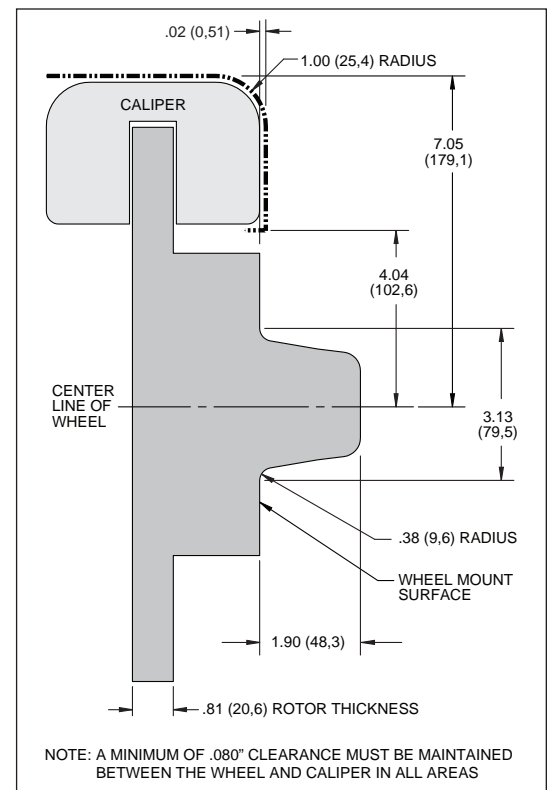

Figure 2. Wheel Clearance Diagram
- Review the wheel clearance diagram (Figure 2, page 4) to verify that there is adequate clearance with the wheels you will be using with the installation.
- Verify wheel clearance utilizing Figure 2.